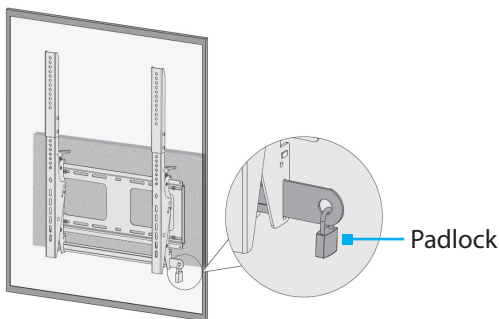

Figure 7
2. Install a **Padlock** through the hole in the **Security Bar**. (Figure 7)